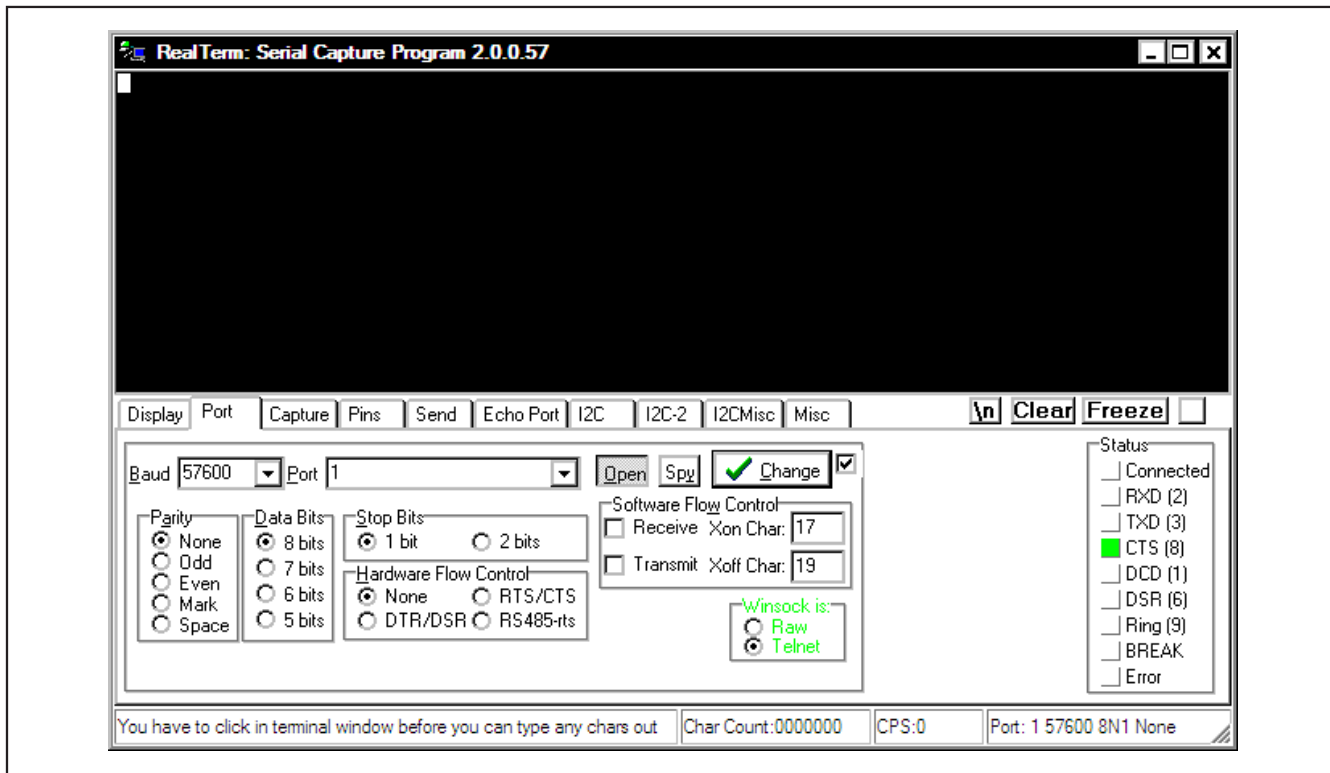

Figure 1. RealTerm Software Main Window (Port Tab)
- 8) Start the RealTerm software by opening its icon in the **Start | Programs** menu. The RealTerm software main window appears, as shown in Figure 1. **Note:** If the serial cable is connected to a serial port other than COM1, bring up the **Port** tab and open the corresponding serial port.